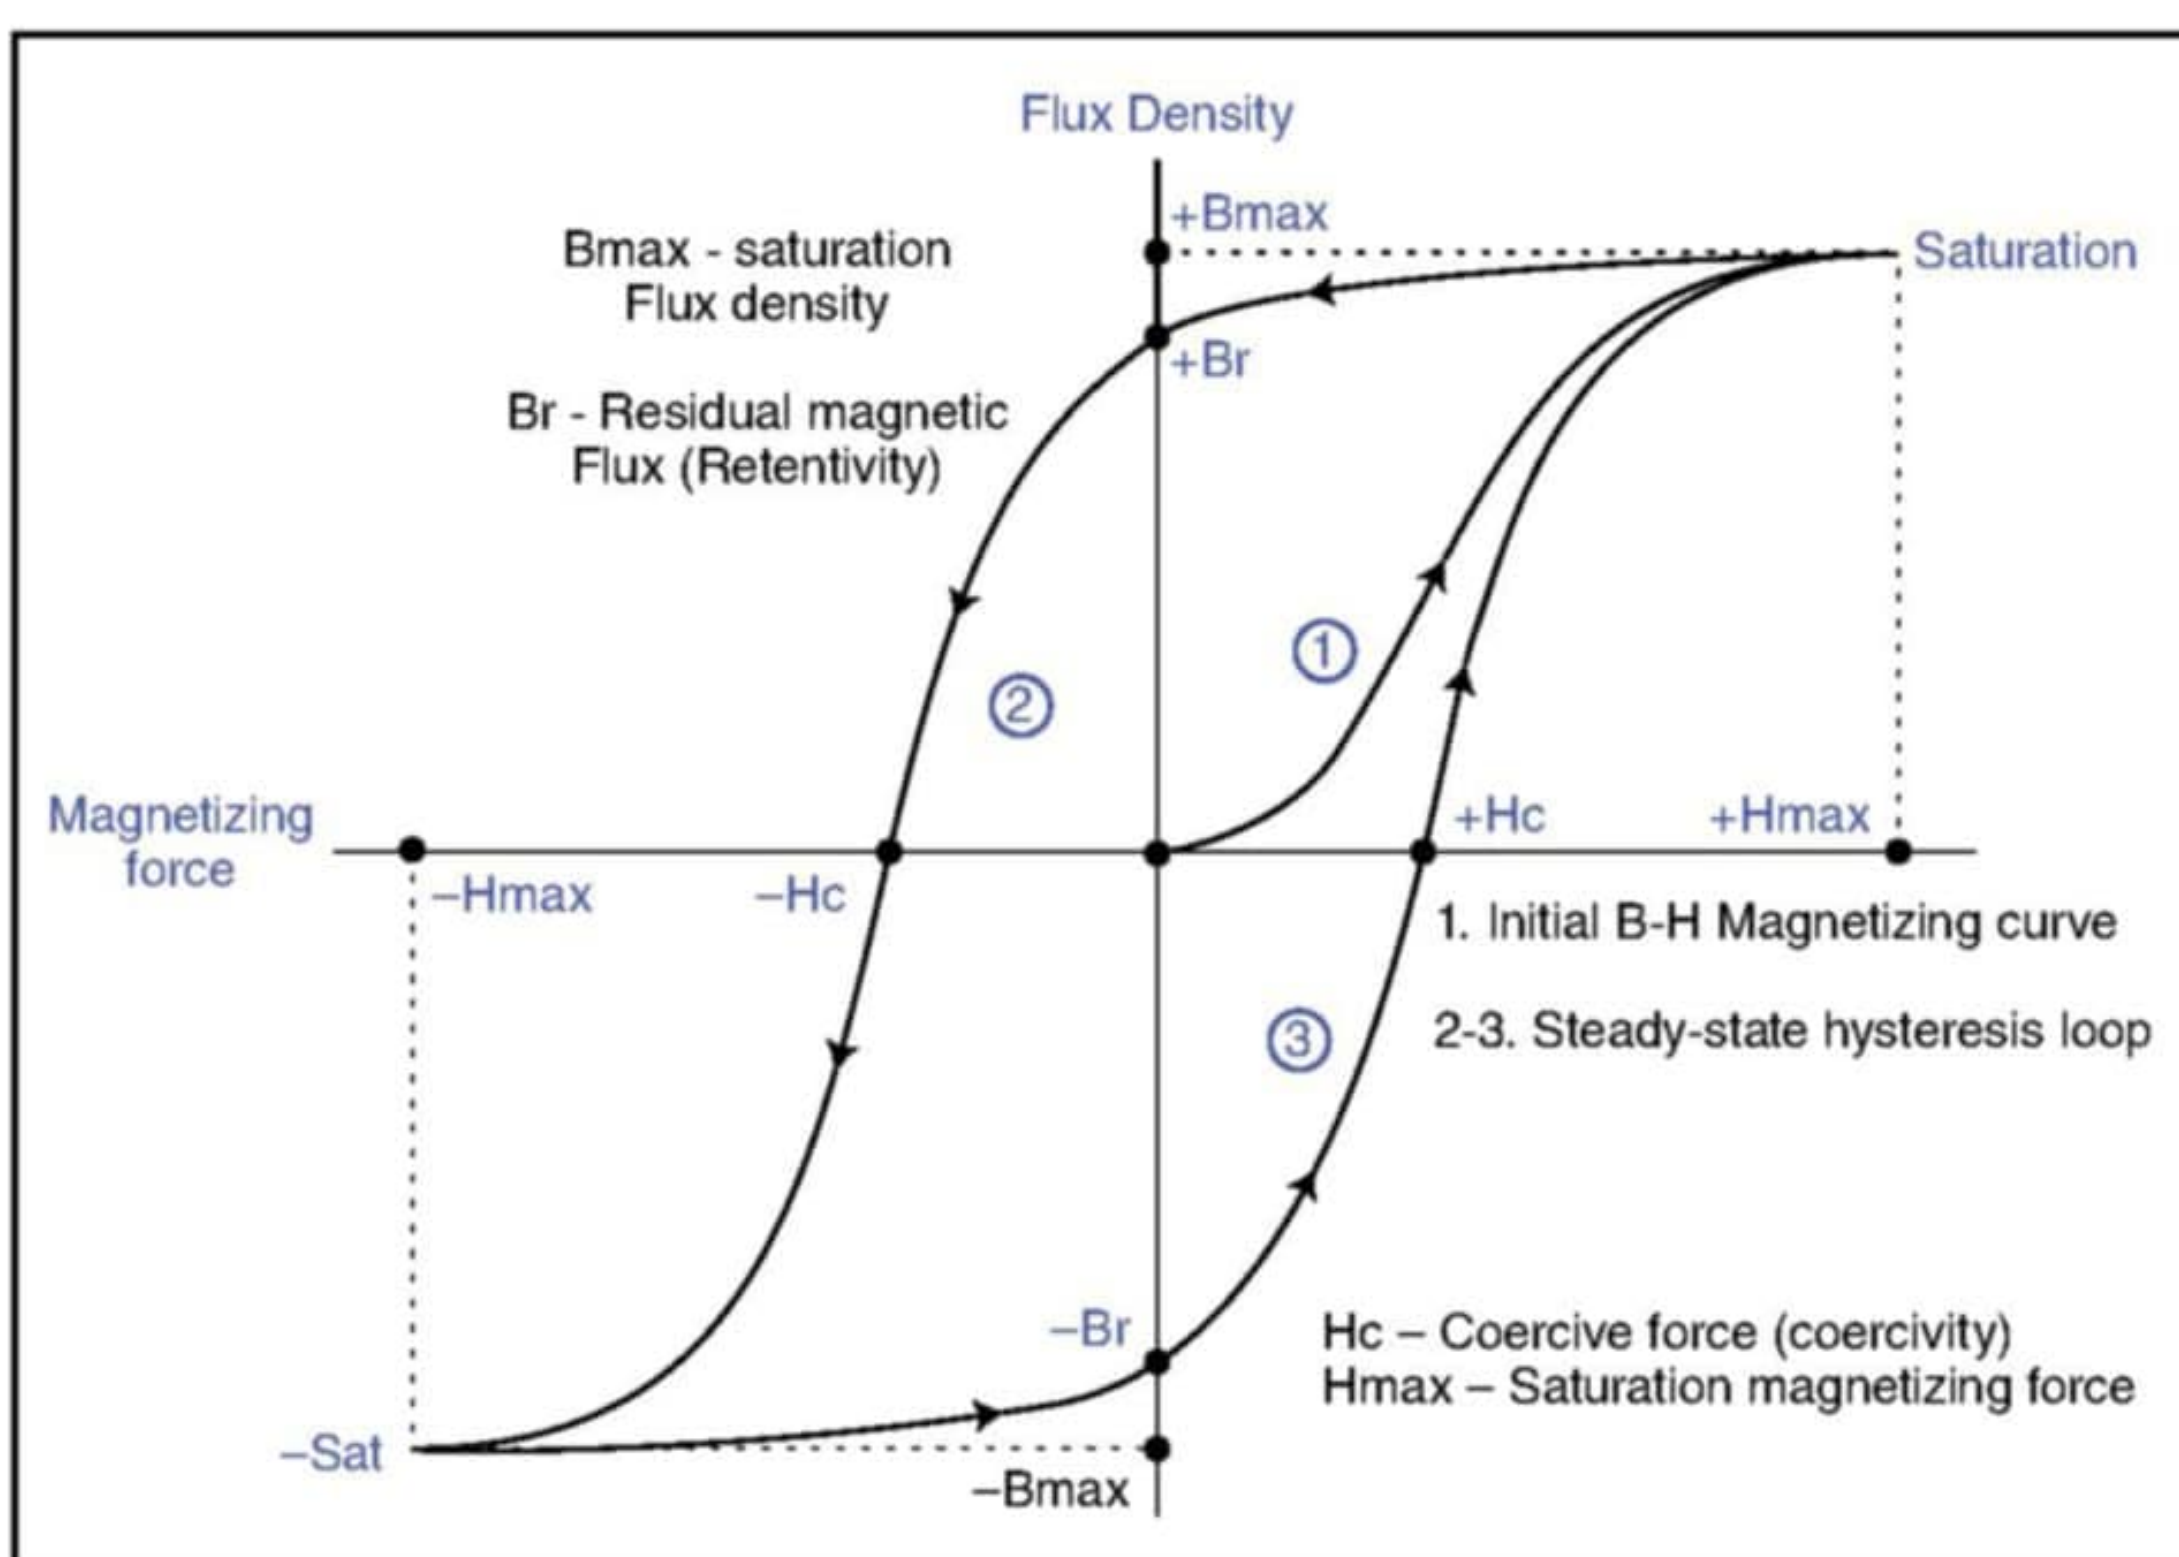

Figure 8: Hysteresis loop for a soft magnetic material (Image Source: *Alternating Current Machines*, 5th Edition, MG Say, Section 2, John Wiley & Son, 1989).
When an AC current is applied to a coil surrounding a magnetic core, it generates a magnetic flux within the core. The elementary dipole magnetic domains within the core try to align themselves with the continuously reversing magnetic field. Current is the forcing function for magnetizing force (H). There is a lag between the magnetizing force and the induced flux density (B), see **Figure 8**. This results in an energy loss within the core called hysteresis loss, P_{HYST} , which is proportional to frequency, the peak flux density, and the area under the B-H curve for the particular magnetic material.